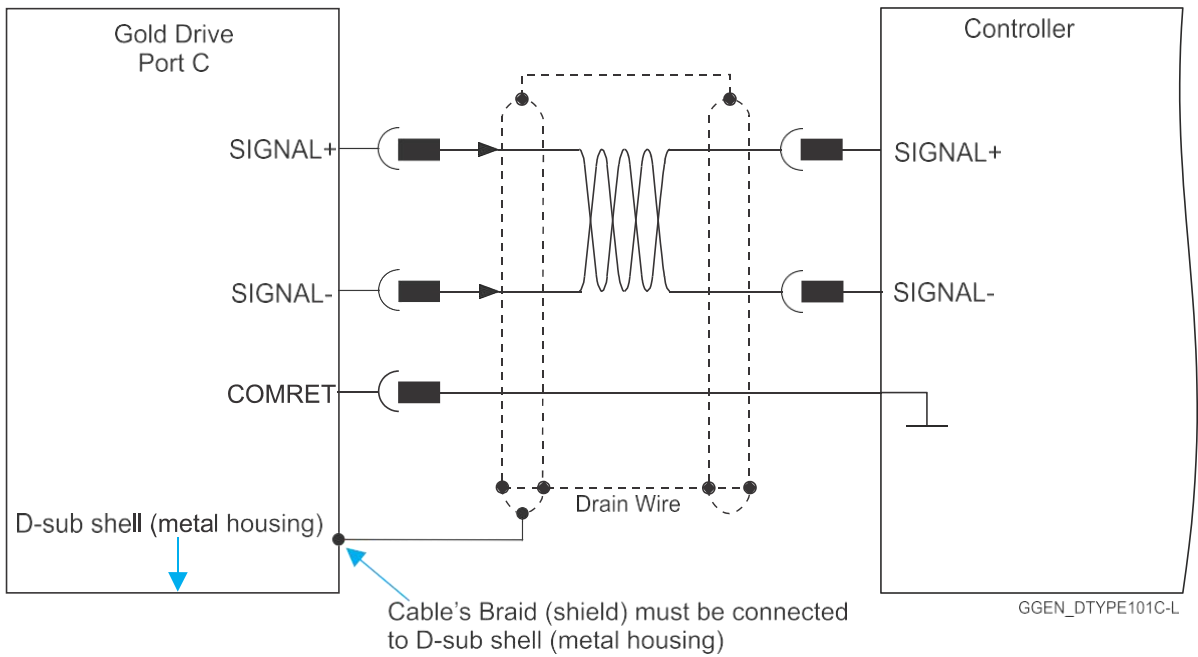

Figure 4: Feedback Port C Cable Assemblies
8. Use only a D-Sub connector with a metal housing (Figure 4).
9. Make sure the braid shield is in tight contact with the metal housing of the D-type connector (Figure 4).